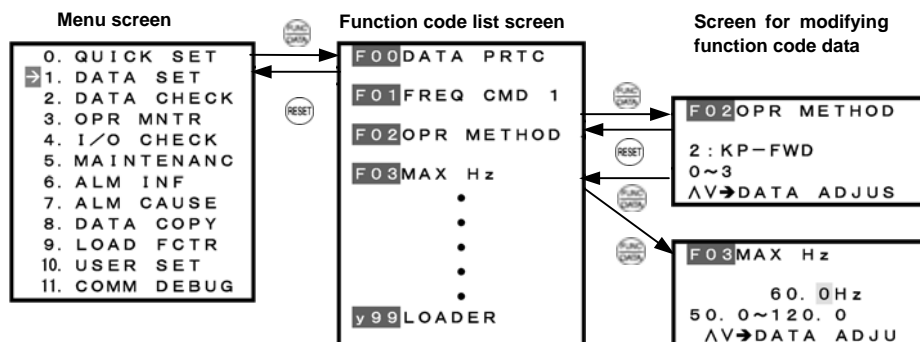

Figure 3.10 Screen Transition for Data Setting Menu
Figure 3.10 illustrates LCD screen transition for Menu item 1. DATA SET.